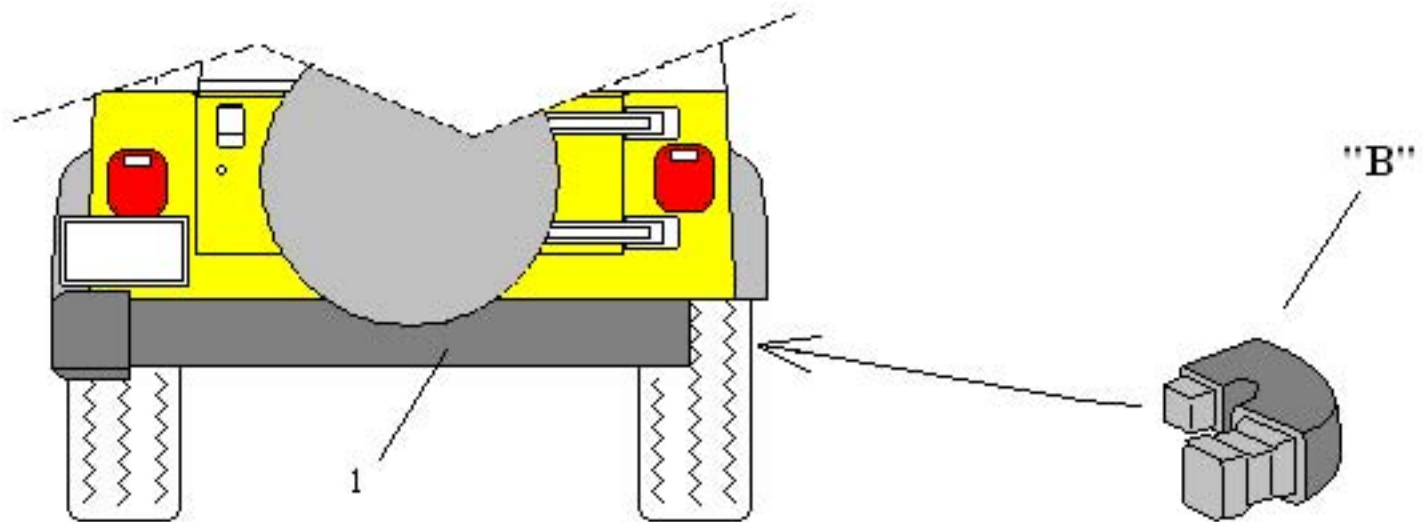

Fig. 8
- 13- Refer to page 7 Fig. 8 and reinstall both rear bumper plastic end caps "B" at this time.